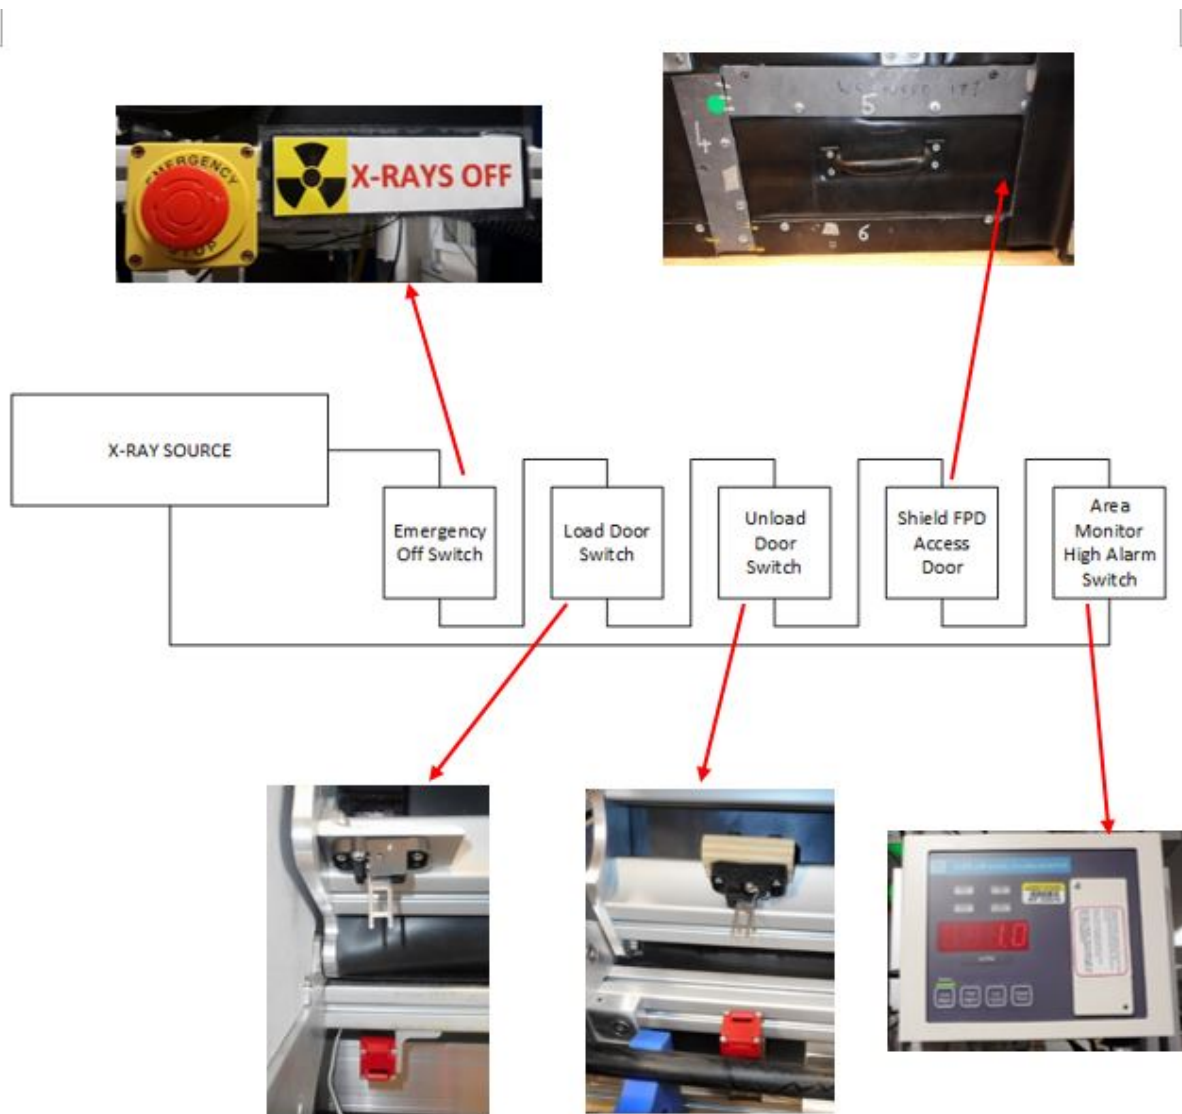

Figure 3- Fail safe circuit diagram.
**Figure 3** shows the failsafe circuit and the safety switches involved. All switches must be closed before the command from the software to generate x-rays will be performed.